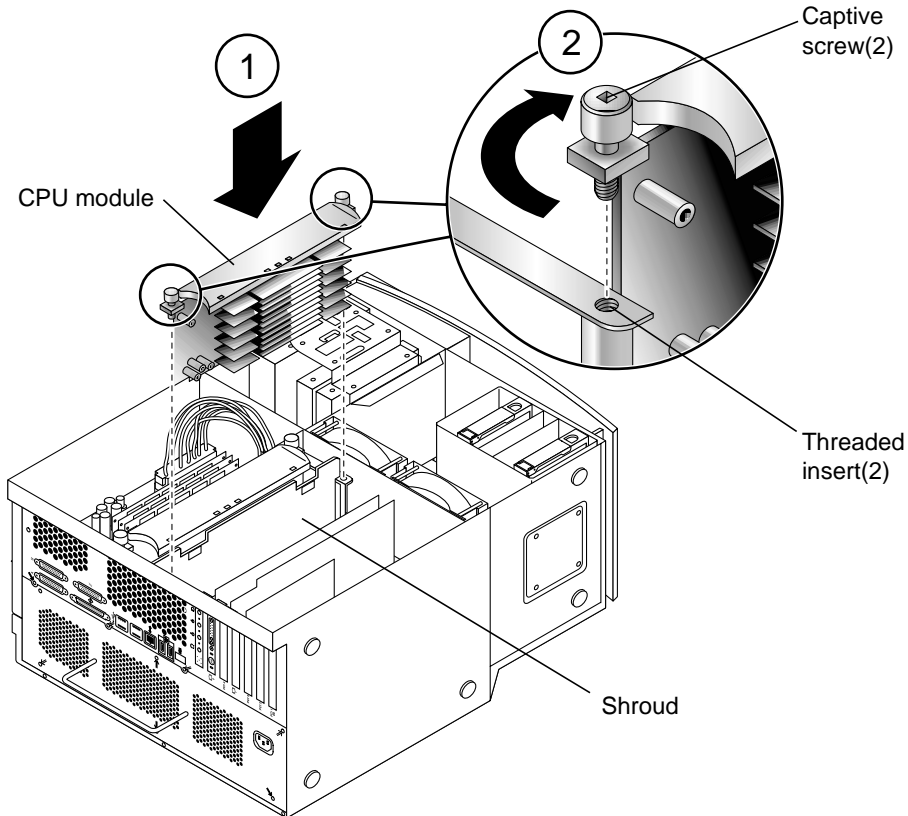

FIGURE 11 Lowering the CPU Module into the Threaded Inserts
2. Lower the CPU module into the shroud until the CPU module's captive screws are aligned with the threaded inserts (see FIGURE 11).